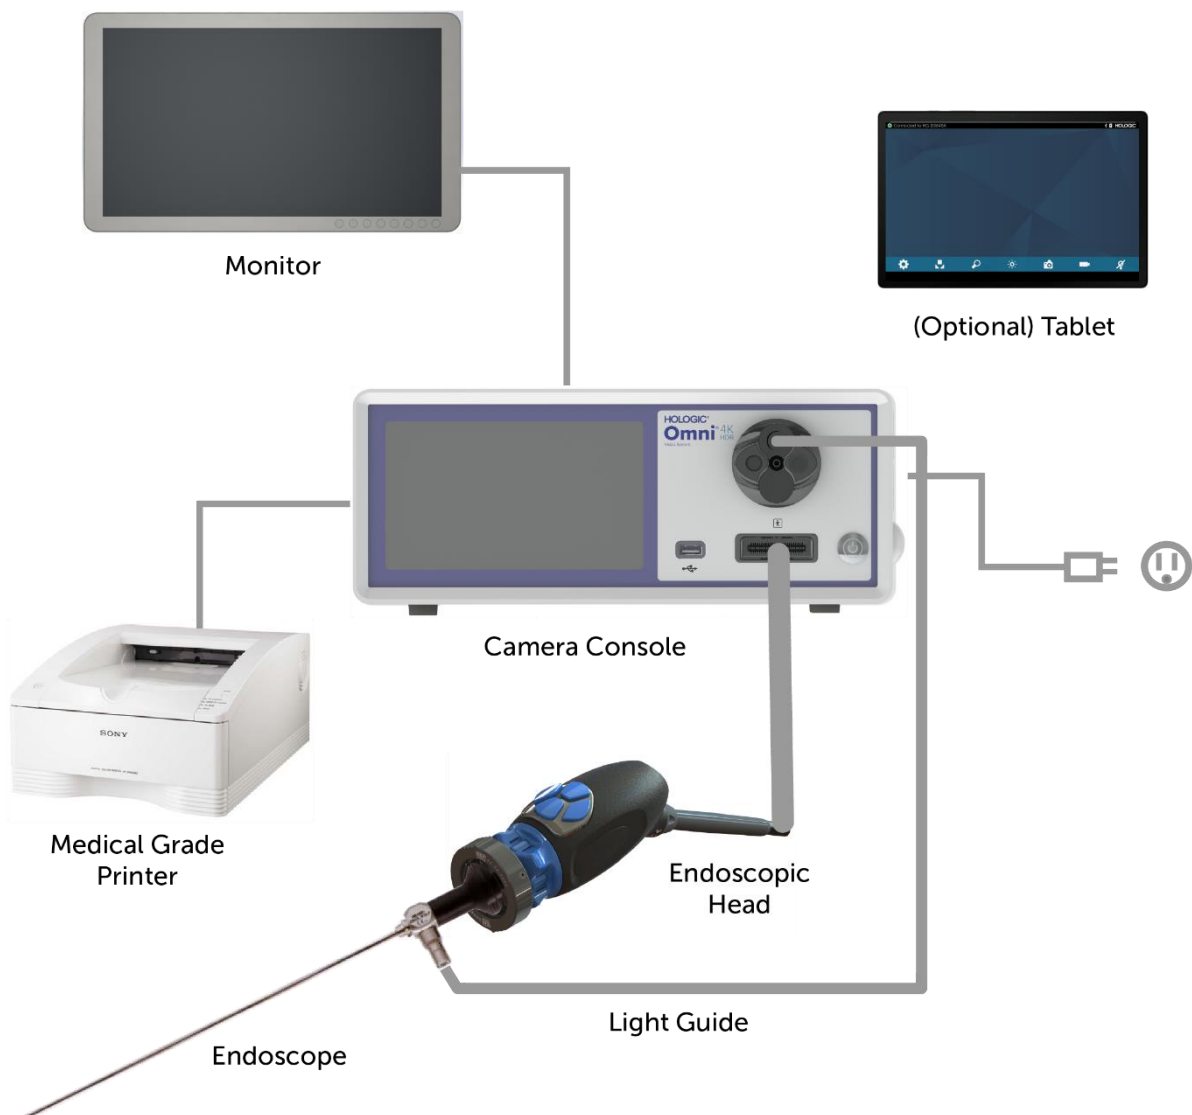

Figure 1 – Installation/System Setup Illustration
A typical installation is illustrated in Figure 1 for reference.
- Use Figure 1 and the rear panel labeling as a guide to connect other compatible equipment, if desired.